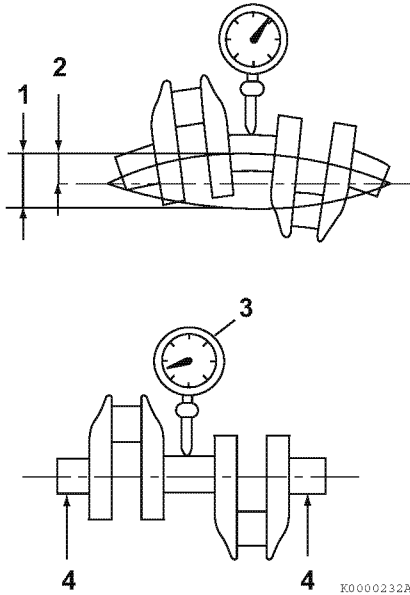

Figure 6-76
1. Put the crankshaft end journals (4, **Figure 6-76**) on V-blocks.
2. Place a dial indicator (3, **Figure 6-76**) on a center main bearing surface.